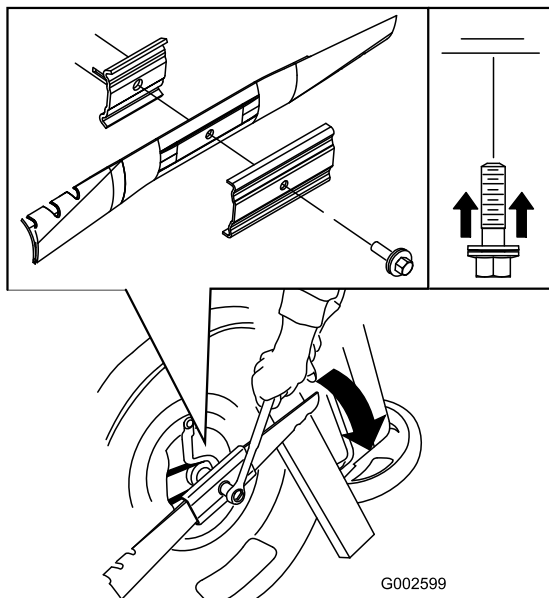

Figure 20
5. Install the new blade (turn the blade bolt clockwise) and all mounting hardware (Figure 20).